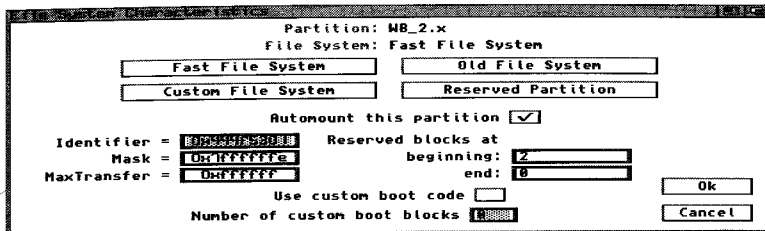

Figure 8. File System Characteristics Window
4. Click on the Change... gadget to display the File System Characteristics window, illustrated in Figure 8.